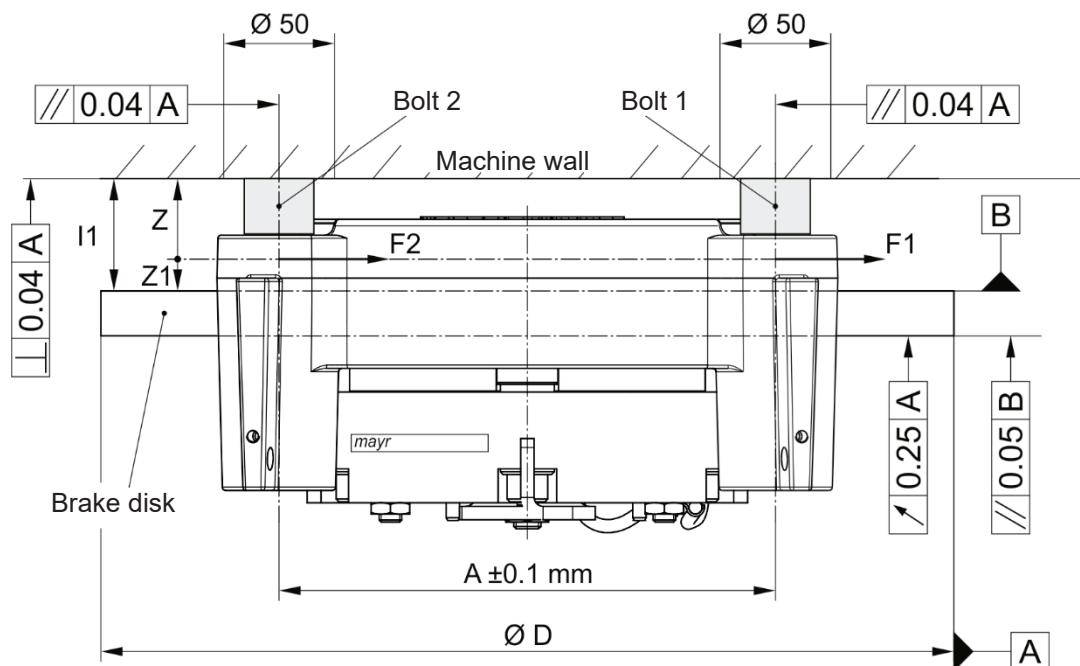

Fig. 14
- ❑ The screw-on surface in the $\varnothing 50$ mm range (Fig. 14) must be 0.04 mm parallel to the brake disk when the guide bolts are **bolted** (Type 894. _ _ _ 1/2 _).
- ❑ The transverse force occurs on the guide bolt of the bearing bushing 1 (3.1). The lever arm which is responsible for the effect on the guide bolt is $Z = I1 - Z1$ (Fig. 14).